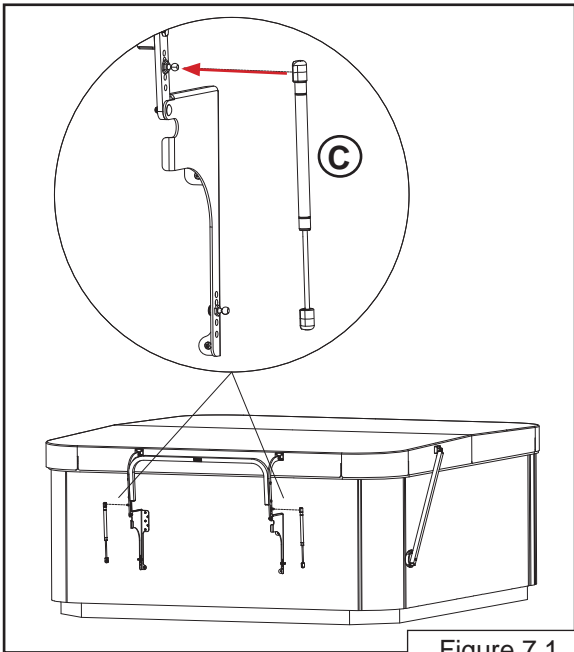

Figure 7.1
1. Locate the Gas Springs (C) and snap onto the upper ball stud (attached to the Pivot Arm Assembly) with the barrel end of the Gas Spring up on both sides (Figure 7.1).